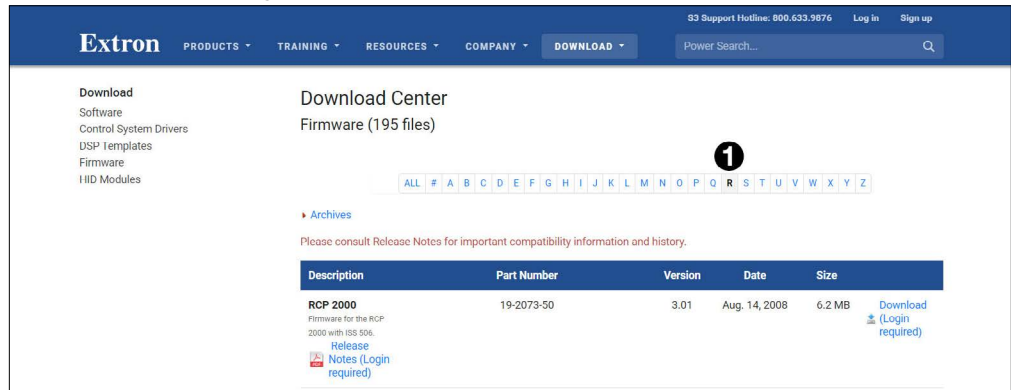

Figure 26. Downloading Firmware
- For either software or firmware, click the letter **R** in the alphabet menu. Products with the initial R are listed (see figure 26, ❶).